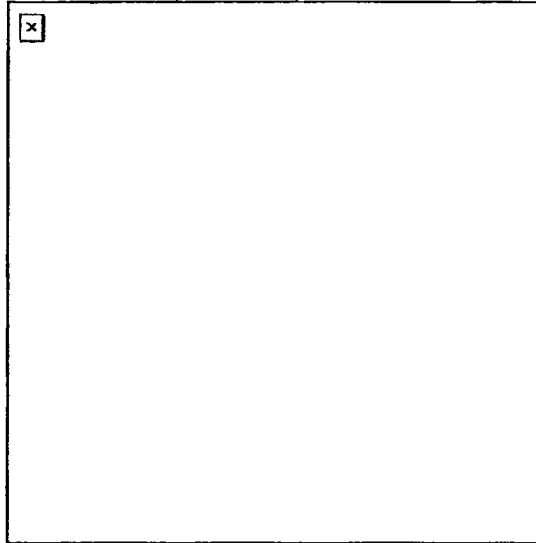

Figure 4. Primary drive lever and vertical cam assembly.
- (1) Reach under the top of the receiver to locate the drive lever lock on the vertical cam assembly and slide the lock rearward about 1/4 inch (Figure 4).